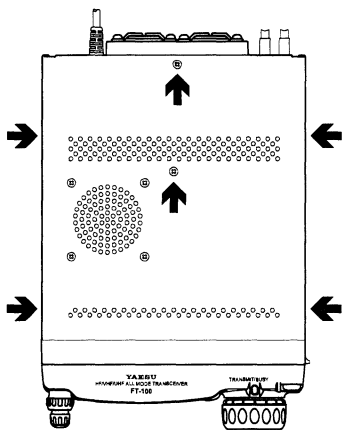

Figure 4
2. Referring to Figure 4, remove the six screws affixing the top case of the transceiver, and remove the case; disconnect the speaker's connector when you remove the top case.